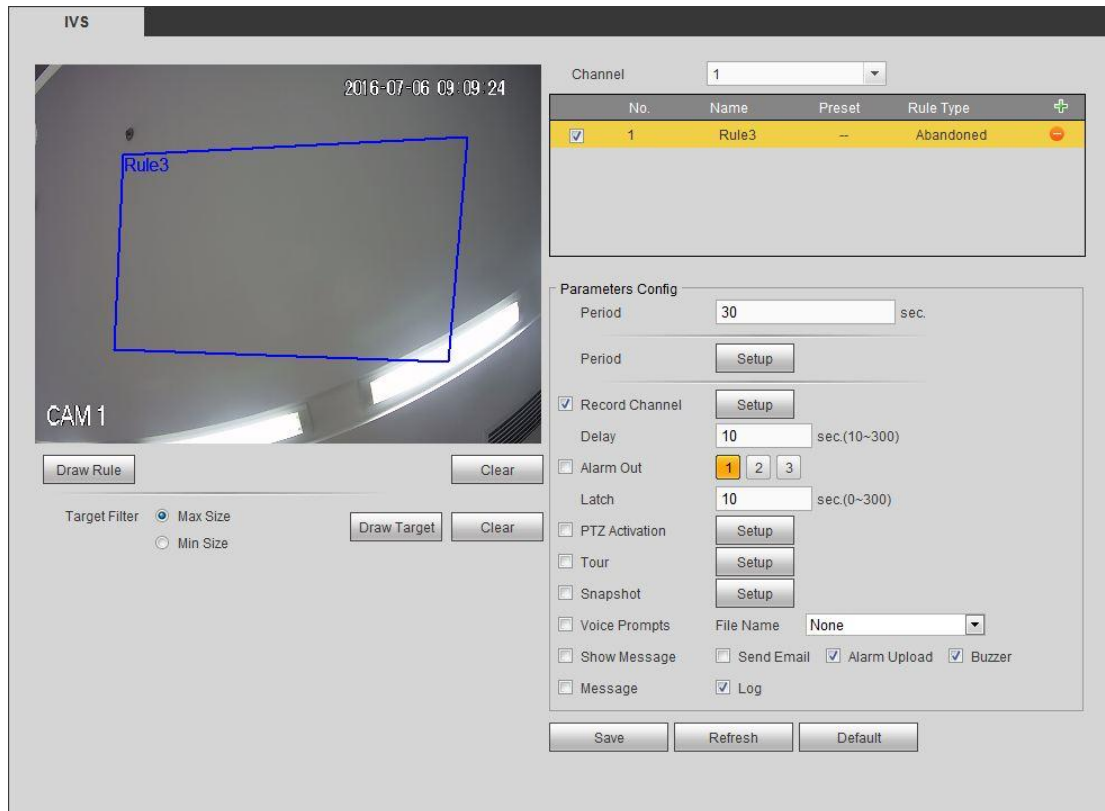

Figure 5-89
Step 3 Click Draw rule to draw the rule. See Figure 5-89. Left click mouse to draw a line, until you draw a rectangle, you can right click mouse.